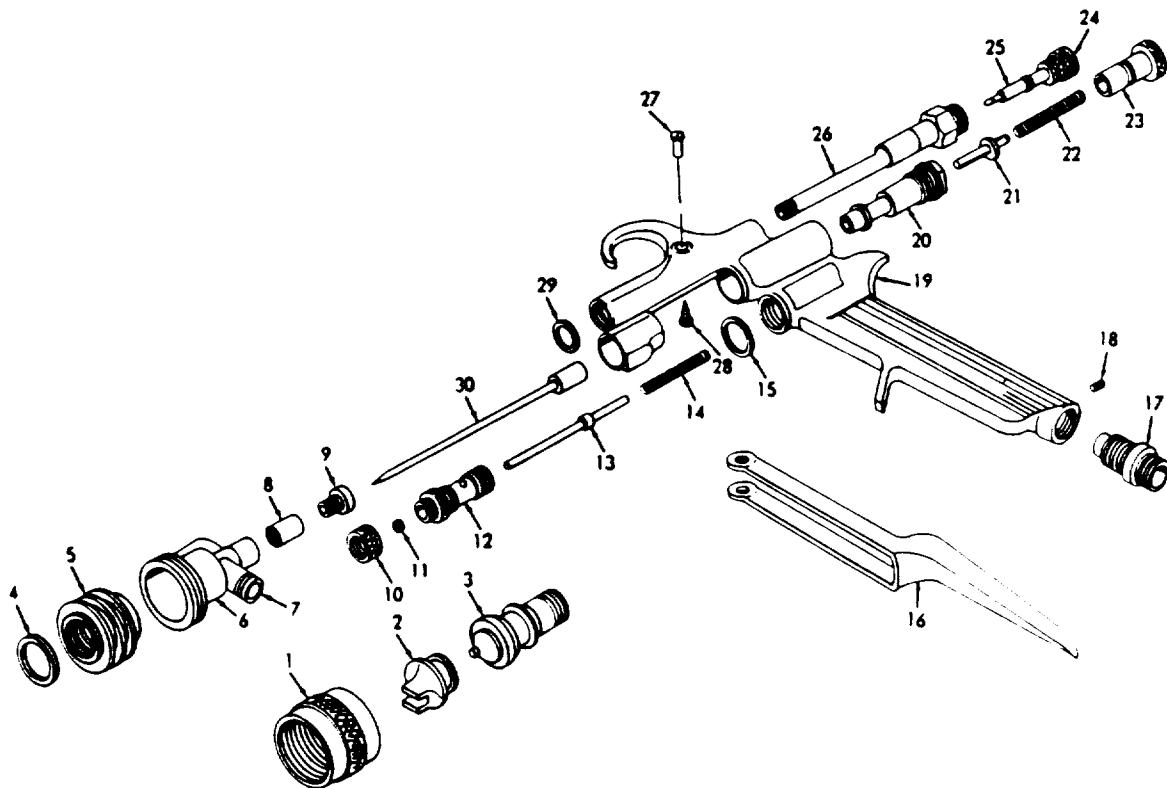

Figure 5-5. Removable Spray-Head Type Spray Gun, Exploded View
a. Material Leakage from Fluid Needle Packing Nut. This condition is caused by a loose packing nut or by dry fluid needle packing. To remedy, remove and soften the packing with a few drops of light oil. Re-install and tighten packing nut to prevent leakage. See figures 5-5 and 5-6.